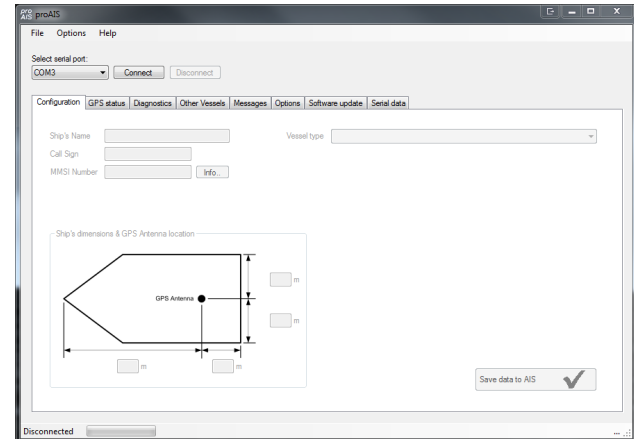

Figure 16 Entering static data into proAIS
4. Once proAIS has launched you should see a window as shown in Figure 16.
3. proAIS should launch with the 'static data' page active (see Figure 16). If this is not the case please select the 'configuration' page.